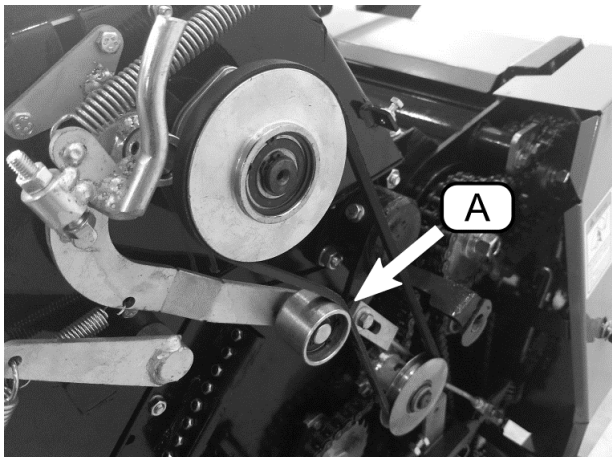

Figure 33 Left side of baler
5. Pull on the net activation rope with a **firm tug** and **hold the rope for three full seconds**. Pulling on the rope will engage the tensioner for the net activation belt (Figure 33, A). If the rope is not pulled firmly, there may not be enough tension on the belt to advance the net. After three seconds have passed, release the rope. The net will continue to unravel for a short period of time and will eventually be cut automatically. When this happens the net wrapping procedure is finished.